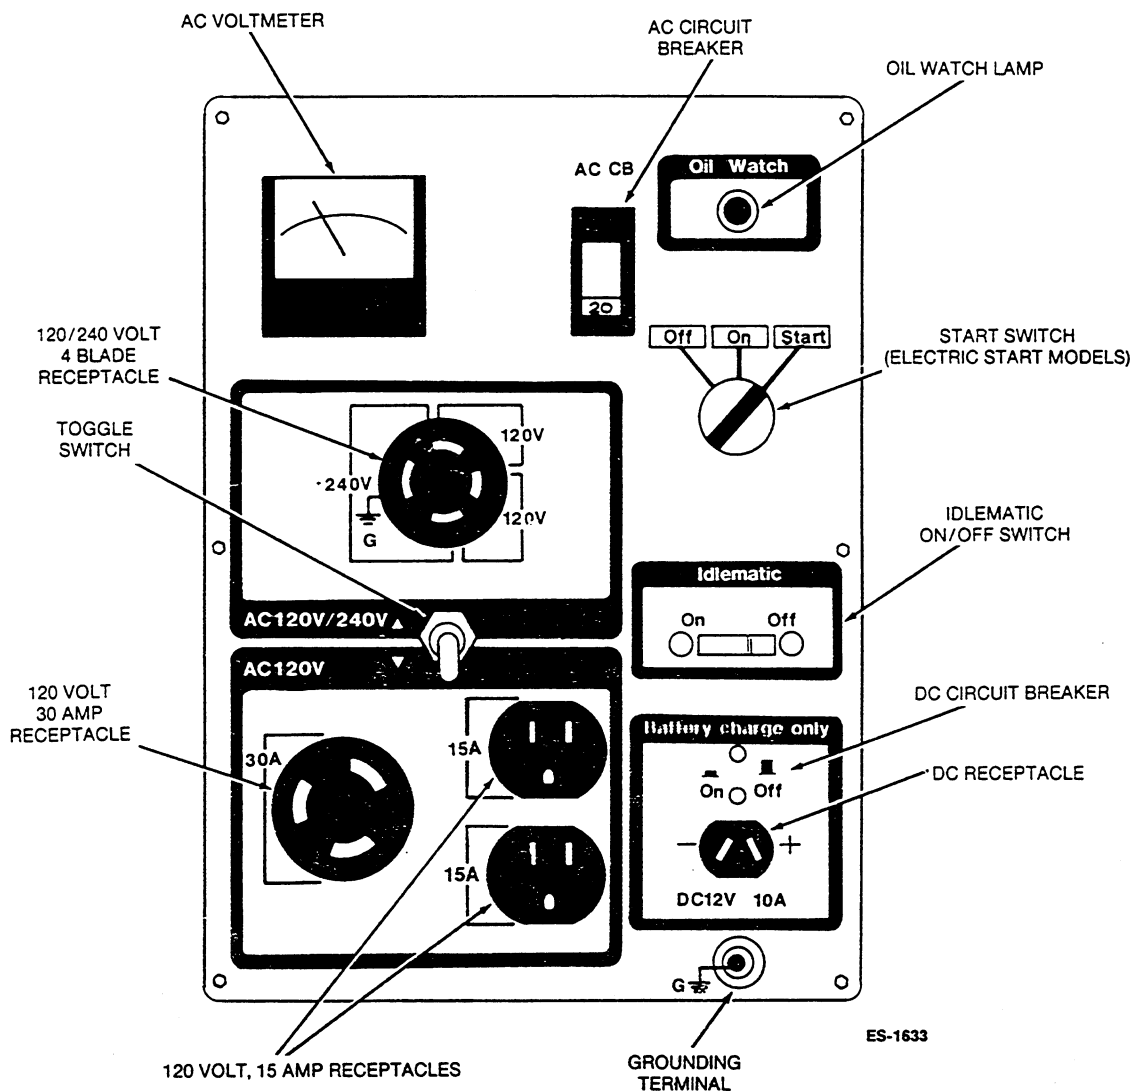

FIGURE 4. CONTROL PANEL COMPONENTS
3. Start engine by turning the engine switch to START position. The voltmeter on control panel will indicate generator output is available. Figure 4 shows location of start switch and generator voltmeter.
If the oil watch lamp flashes during cranking or running, stop the unit and check the oil level. Add oil as required under Pre-Starting Checks. Figure 4 shows location of oil watch lamp.
5. Move the Idlematic Switch to ON if you want the idlematic feature to operate automatically. This feature automatically controls engine speed to rise when loads are connected. If you do not want to use it, keep the switch at OFF (Figure 4).
The oil watch flashes during cranking if the oil level is low. It also stops the generator set if it is running and reaches the low working level of the oil watch (oil watch indicator lights while engine is stopping). See Figures 4 and 5. Add oil as necessary before attempting to restart.